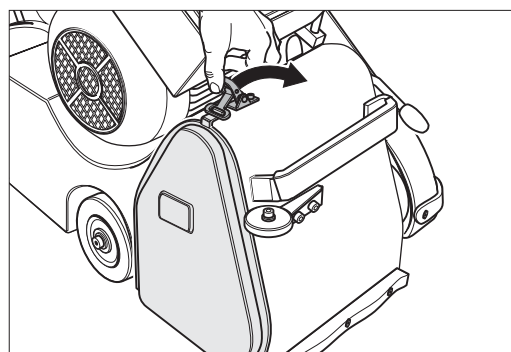

Fig. 15 After completed sanding belt changeover, replace the side cover.
- 9 Close the housing opening again using the side cover (Fig. 15).